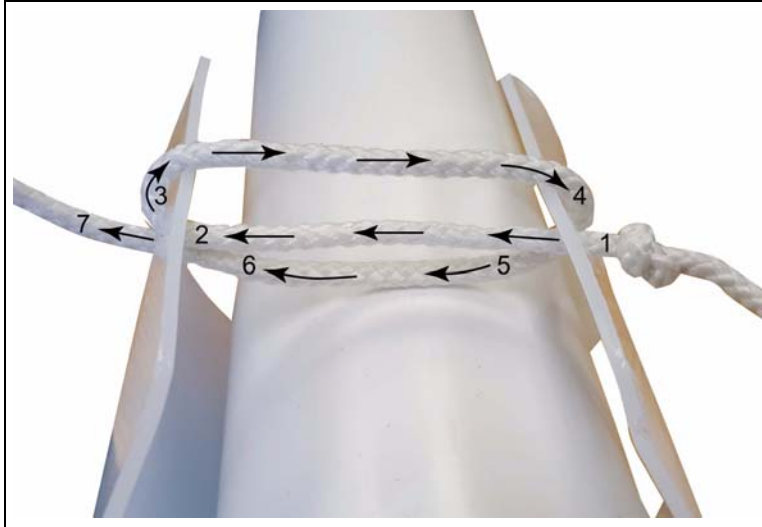

Figure 6F
4. Loop the cord over and back through both holes again. (See Figure 6F.)